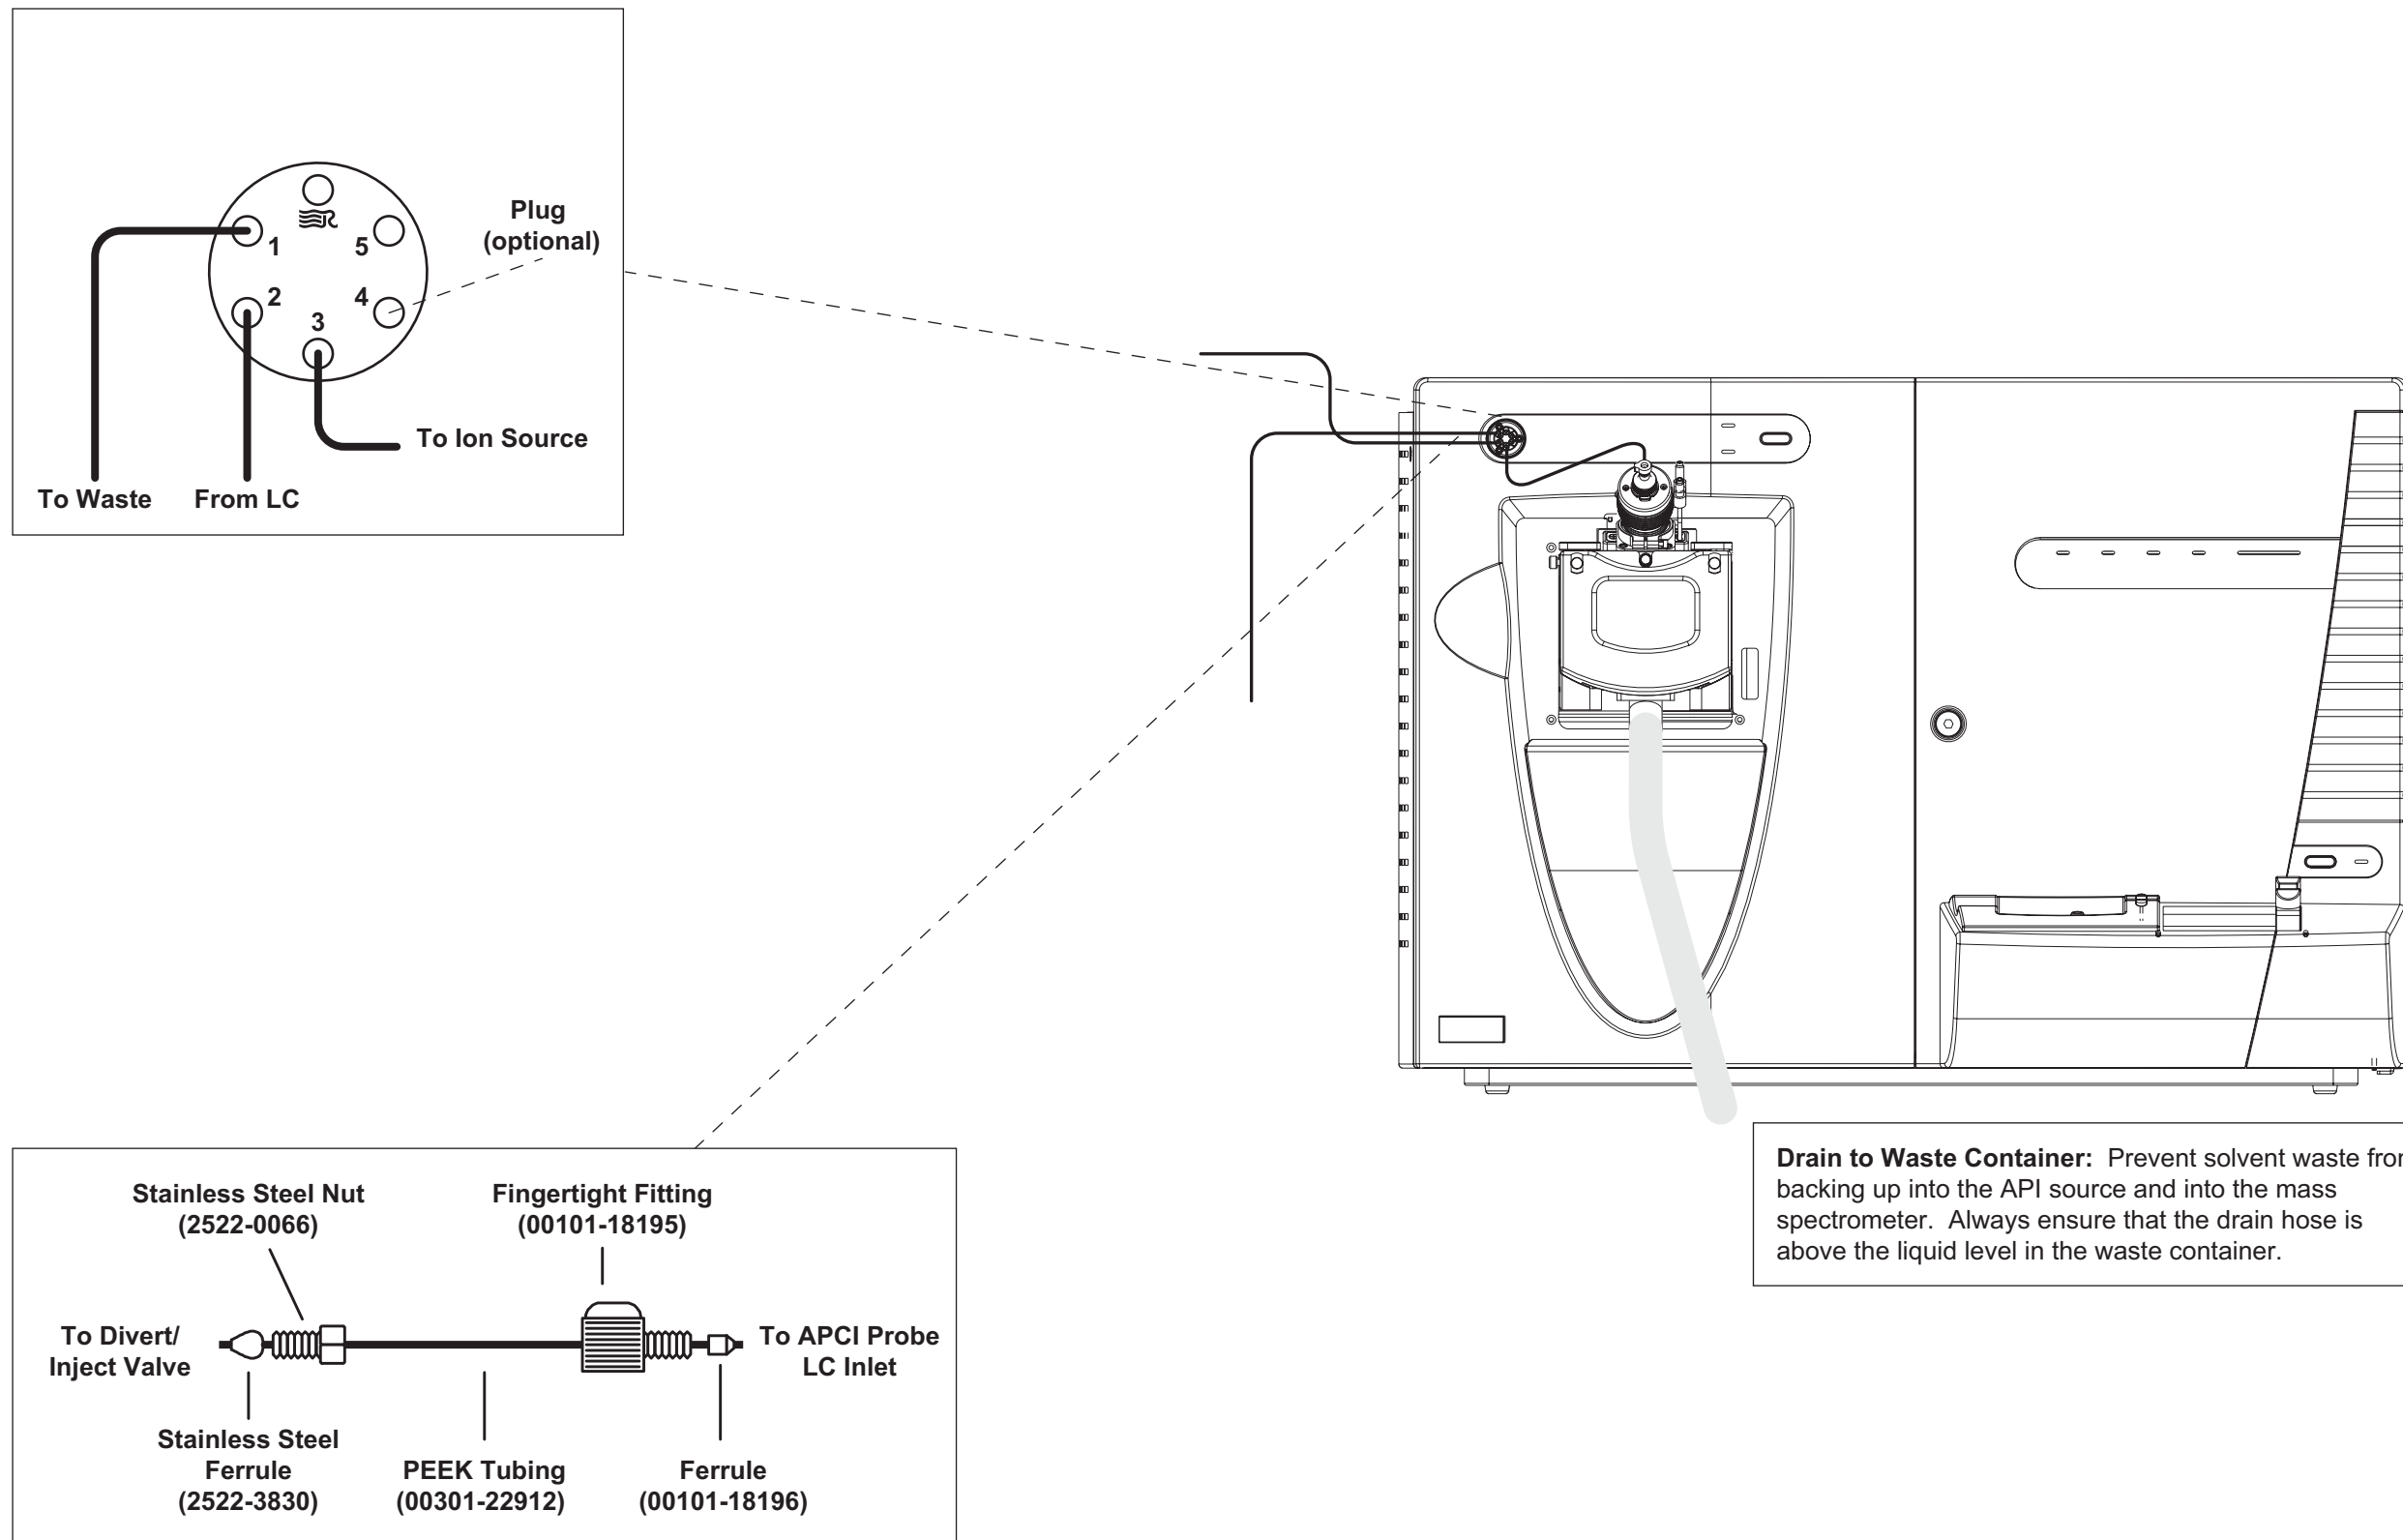

Figure 11-8. Plumbing diagram showing APCI/MS sample introduction from an LC autosampler with or without chromatographic separation
- Figure 11-8. Plumbing diagram showing APCI/MS sample introduction from an LC autosampler with or without chromatographic separation